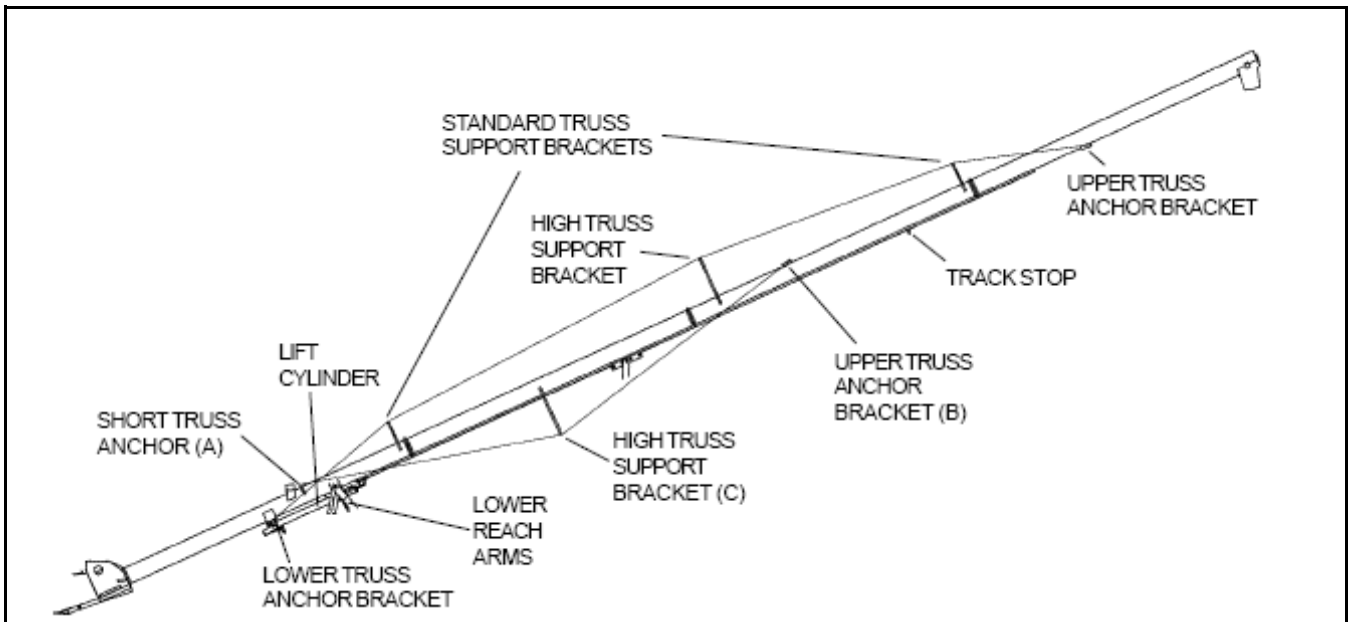

Figure 3.13 MK130 Plus 81'
- ➔ 9. **MK130 Plus 81'** (Figure 3.13):
- Fasten short truss anchor (A) to lower auger tube with 7/16" x 1" bolts and locknuts.
- Fasten high truss support bracket to mount (C) on bottom of center tube with 7/16" x 1" bolts and locknuts.
- Pull truss cable over truss support bracket, around upper truss anchor (B) and back over truss support bracket to short truss anchor, holding it loosely in place with one cable clamp at upper truss anchor and 2 cable clamps at truss support bracket.
- ➔ • **MK130 Plus 71'**: attach the cable-roller to lower end of track (Figure 3.13).
2. Position one of the lift cylinders to the right side of the welded brackets on the lower end of auger tube (Figure 3.13). Attach with four 7/16" x 1-1/4" bolts and locknuts. Tighten securely.
3. Attach other lift cylinder to left side of welded bracket with four 7/16" x 1-1/4" bolts and locknuts. Tighten securely (Figure 3.13).